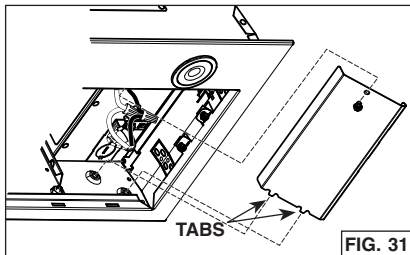

FIG. 31
- Reinstall the electrical cover in the unit; ensuring the bottom tabs are inserted in their embossed location. Secure in place using its retaining screw (FIG. 31).